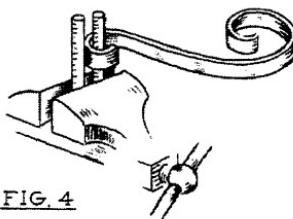

FIG. 4
4. Draw the shape of the arm full size and bend it to the shape of the diagram (Fig. 4).